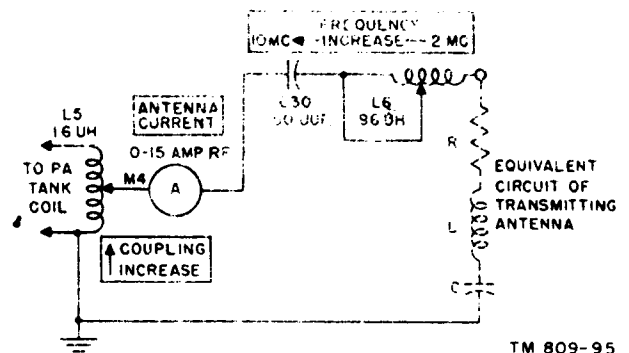

Figure 36. Antenna tuning unit with range switch in LONG WIRE position.
c. Figure 36 is a functional schematic diagram of the tuning unit with switch SW9 set to LONG WIRE and a long-wire antenna connected to the unit. The antenna may be either capacitive or inductive depending on the length of the wire and frequency used. The net reactance is made equal to zero by varying the movable tap of low-frequency loading coil L6. Vacuum-type capacitor C30 provides the necessary capacitance when the reactance of the an-